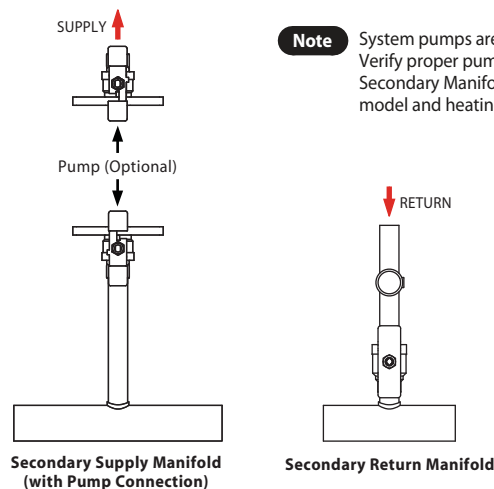

FIGURE 4: Secondary SUPPLY and RETURN Manifold Piping
- When the boiler is used to distribute hot water to hydronic heating components such as radiators (baseboard or cast iron), radiant zone, and/or forced air systems, Secondary SUPPLY and RETURN Manifolds are recommended for best performance and ease of installation (see **FIGURE 4**).